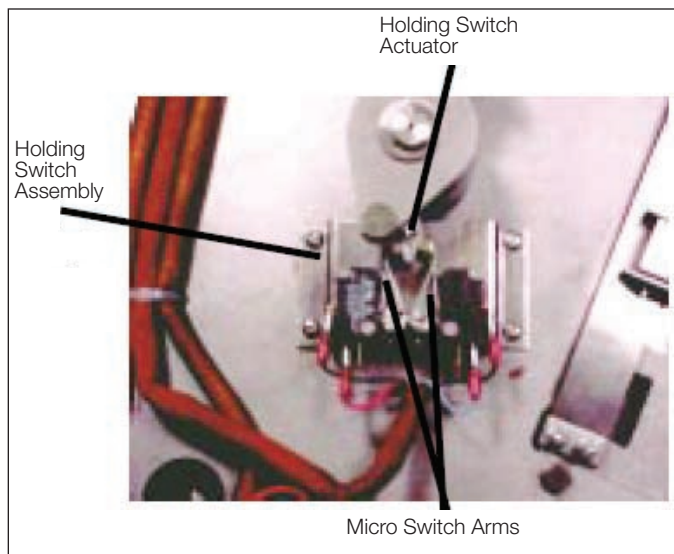

Figure 7.
- The holding switches are open. See Figure 7.